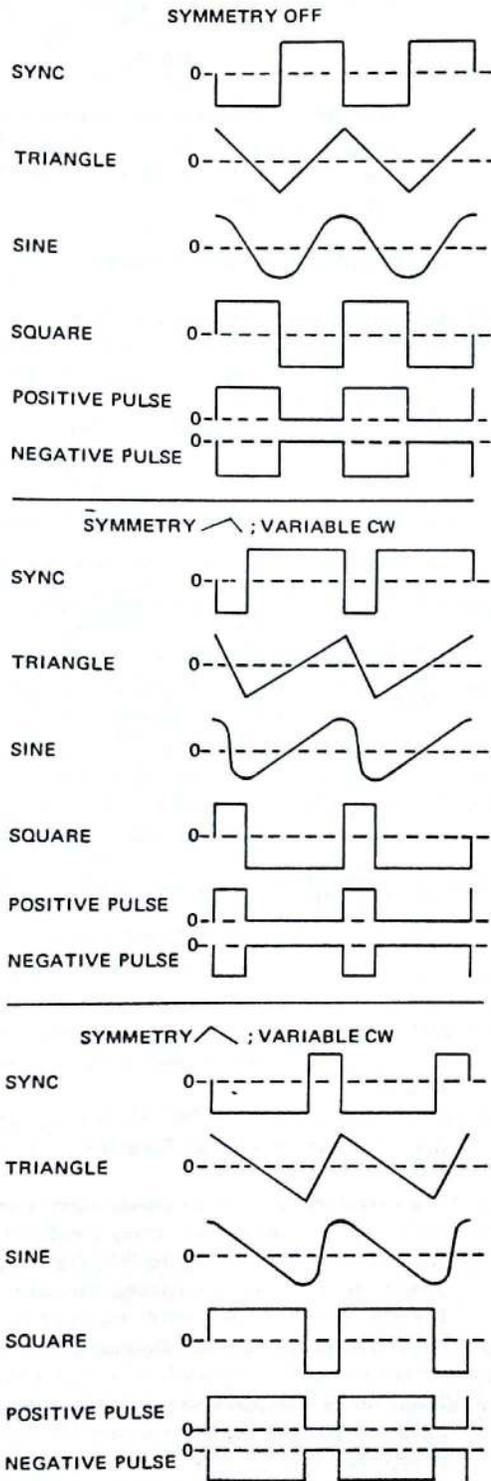

Figure 2-5. Waveform Phasing and Symmetry Control
- Set SYMMETRY control for desired symmetry or asymmetry. The symmetry control can be used to develop ramp waveforms with variable rise/fall ratios and single or multiple pulses with variable duty cycles. By using the sine wave with asymmetry, controllable sine distortion can be developed. Figure 2-5 shows the effect of this control on output waveforms. The frequency of an asymmetrical waveform will be approximately a factor of 10 lower than the symmetrical waveform frequency output.